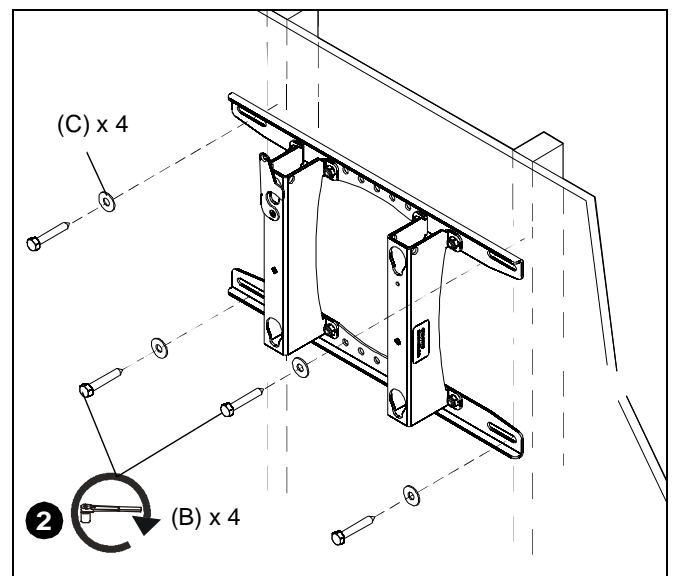

Figure 3
2. Install and tighten four 5/16 x 2-1/2" lag bolts (B) and four 5/16" washers (C) (two top and two bottom) into the mounting holes, centering the MSP-HYT1 on dual wood studs 16" apart on center. (See Figure 3)